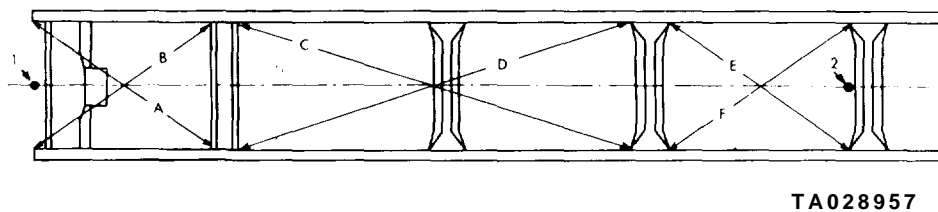

Figure 9-3. Alinement Marking.
a. Horizontal or Diagonal. Inspect all frame parts for visible damage before proceeding with frame alignment checks. Replace damaged parts as necessary. The following procedure determines frame distortion. Refer to figure 9-3.
(1) Place a plumb bob at several points along one side-rail, preferably at crossmember locations. Mark the floor at the points indicated by the plumb bob.
(2) Locate the corresponding points on the other side-rail and mark them on the floor in the same manner.
(3) Move the truck. Measure and mark lines between all marks, diagonally and parallel to the siderails. Corresponding measurements should not differ by more than a quarter of an inch.
(4) Measure the width at the front and rear marks. Divide the distance in half to determine the center points.
(5) Stretch a chalk line between points 1 and 2 in figure 9-3 and snap the line.
(6) Measure the distances from the centerline to the diagonal intersections (points A, B, C, D, E, and F in figure 9-3). This will tell you if the frame is bent to the right or left. The distance should not exceed one-eighth inch per 100 inches of frame.
(7) Any point on one siderail should be within one-eighth inch above or below the corresponding point on the opposite side.
(8) Overall width of the frame should not vary more than one-eighth inch.
(9) Service or straighten the frame if required (paragraph 9-3), and repeat the procedure.